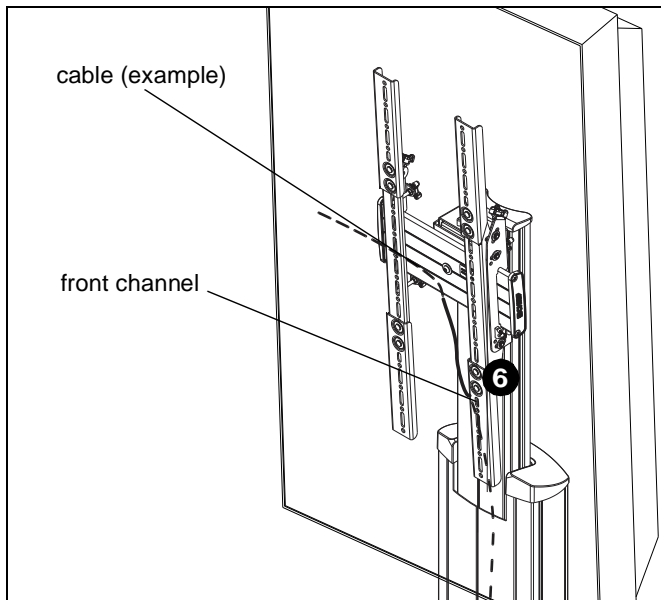

Figure 11
7. Route cables from display through front channel of column assembly. (See Figure 11)